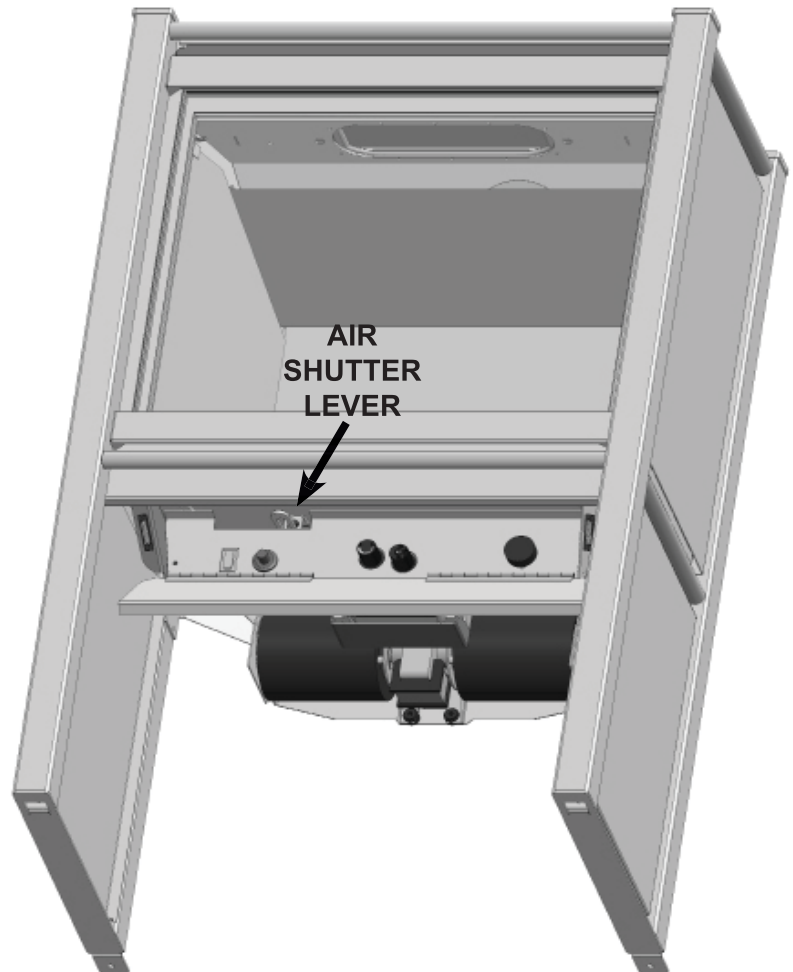

Fig.32
1. To access the air shutter adjustment lever, open the hinged door beneath the firebox, it is in the upper left-hand side. (Fig.32)